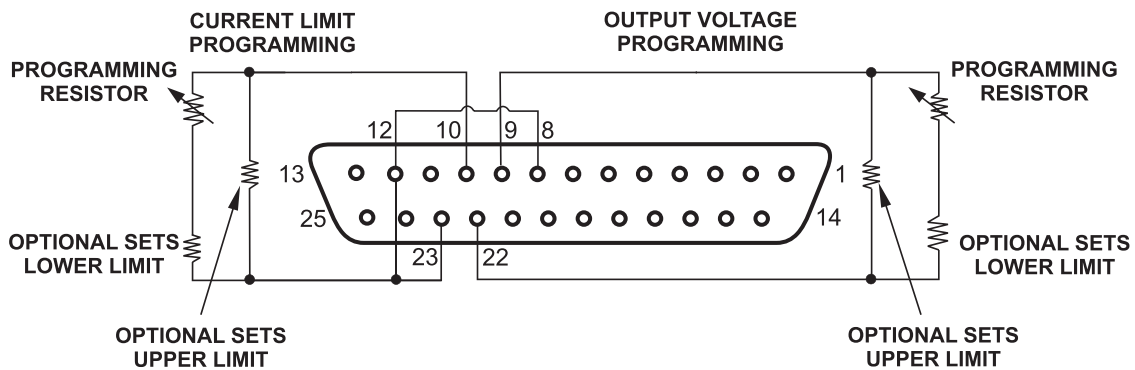

Fig. 5-3: Resistive programming connection
2. Perform the connection as shown in Figure 5-3 and the settings shown in Tables 5-5 and 5-6.
3. Connect the programming resistors to the mating plug of J1 as shown in Fig.5-3.